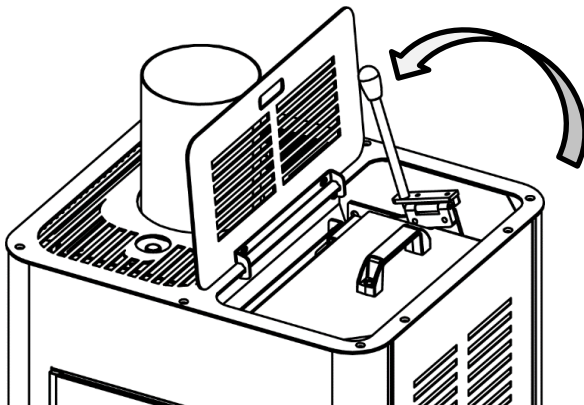

Fig. 12
- Open the lid and move the pellet loading lever to the "Stop" position (fig. 12);